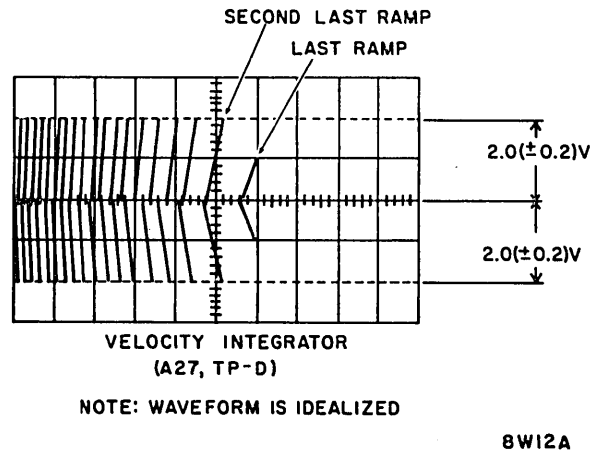

Figure 3-14. Velocity Transducer Gain Uniformity Waveform
- Observe waveform similar to Figure 3-14. Adjust triggering controls to observe both negative and positive ramps. Ramps represent integrated velocity sawtooth during last 127 tracks of seek. Positive ramps are forward seek; negative ramps are reverse seek.